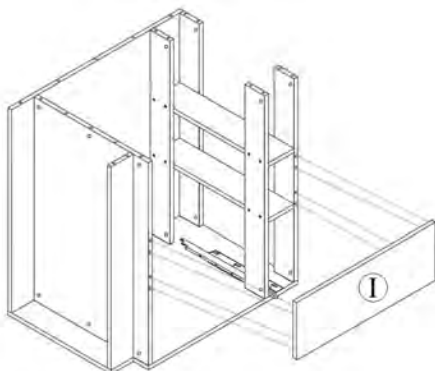

Figure 6
6. Install the center front stile (I) and the other side panel (C) using the same method from step 5. (Figure 6)